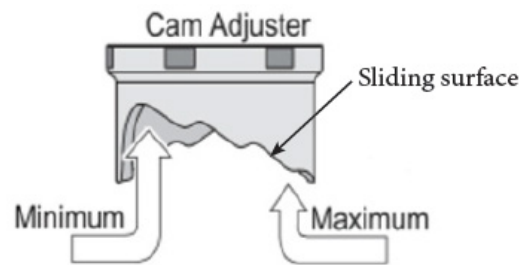

Figure 2
- For easier spring preload adjustments, put a small amount of cam adjuster lube (supplied) on the sliding surface prior to rotating the cam (see Figure 2).